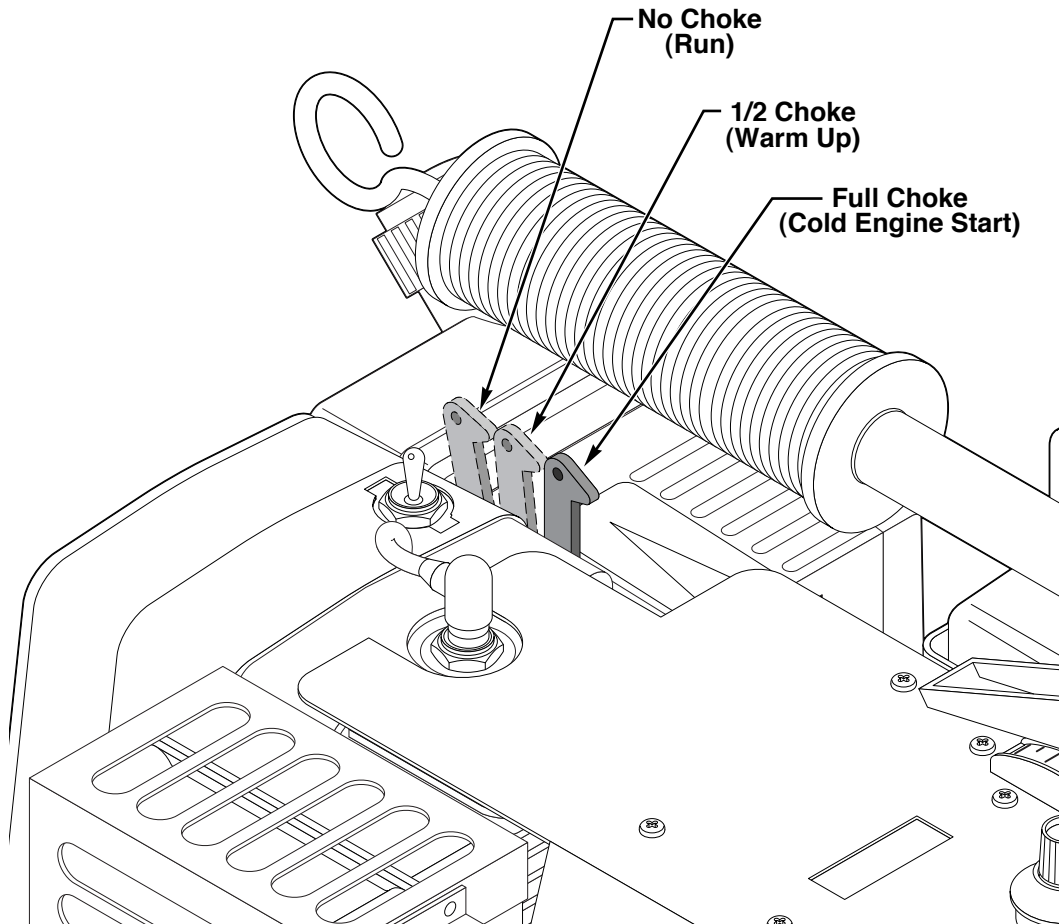

Figure 2
2. Close the choke lever to the Full Choke position. If the engine is warm or the ambient temperature is high, close the choke lever to _ Choke, or keep it open fully at No Choke. Reference Figure 2.
5. After starting the engine, gradually open the choke by moving it to the No Choke position. Do not fully open the choke immediately when the engine is cold or the ambient temperature is low, because the engine may stop. Reference Figure 2.